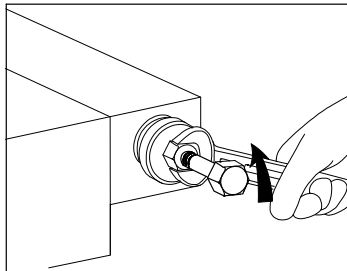

Fig. 5-7
5. Unscrew the filter cartridge counterclockwise with an open-end wrench or ring wrench (Fig. 5-7).